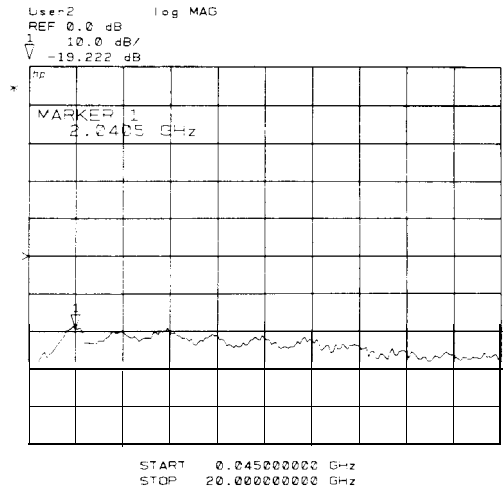
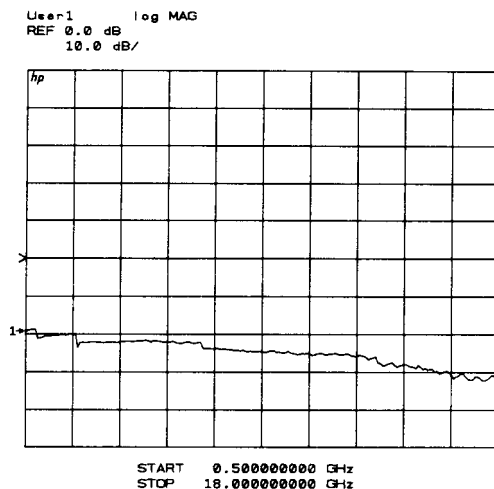

Figure 3-3. Typical Operator's Check CRT Power Level Trace
Figure 3-4. Typical Operator's Check CRT Power Level Trace
Plug in and turn on the test set (it should not be connected to any other instrument or device now). The line LED should light immediately and the active LED should light in about two seconds. Those indications mean that the instrument has passed its self-test. Turn off the test set and connect it to the HP8510 system as shown in Figure 3-3. Turn on all of the system instruments, network analyzer last. Let the instruments complete their self-tests.
- b. HP 8350B systems: press **[SWEEP TIME] [2] [0] [0] [k/m]** to set the sweep time to 200 ms. In narrow band systems, the level of the frequency band generated should match the levels shown in Figure 3-3 for a given frequency.
The b₁ and b₂ traces should resemble Figure 3-3. The a₁ and a₂ traces should resemble Figure 3-4.
5. Press PARAMETER [MENU] [USER 4 b1] [REDEFINE PARAMETER] [DRIVE] [PORT 2] [PHASELOCK] [a2] [REDEFINE DONE] to observe the b₁ thru power level trace. The trace should resemble Figure 3-4.
6. Leave the thru connection of step 4 connected. Press PARAMETER [MENU] [USER 2 b₂] [REDEFINE PARAMETER] [DRIVE] [PORT 1] [PHASELOCK] [a1] [REDEFINE DONE] to observe the b₂ power level trace. The trace should resemble Figure 3-4.
3. Press [USER 4 b1] to observe the b1 power level trace. The trace should resemble Figure 3-3.
5. Press PARAMETER [MENU] [USER 2 b2] [REDEFINE PARAMETER] [DRIVE] [PORT 1] [PHASELOCK] [a1] [REDEFINE DONE] to observe the b2 power level trace. The trace should resemble Figure 3-4.